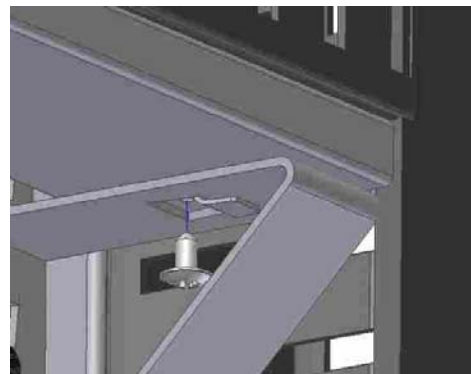

Fig 10
STEP 2 - Mount the **safety screws (4.9x13mm threaded screw-locks)** to prevent the **ducts** coming out of the trapezoids (Fig. 10).